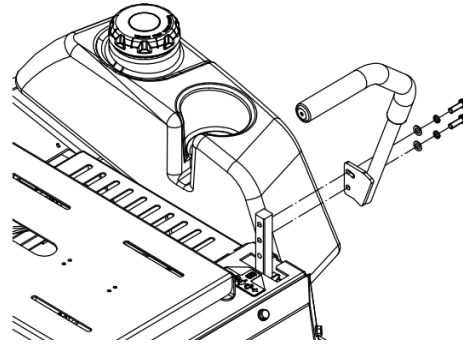

Fig. 5
- Place the lever on the outside of the control arm shaft and secure with bolts and washers (Refer to Fig. 5),tighten until snug. Repeat on opposite side of unit.